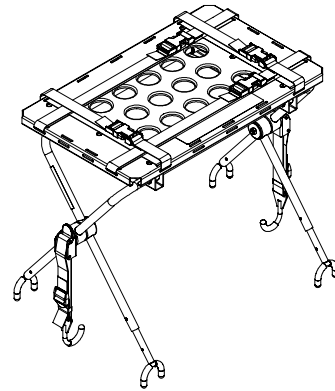

Figure 66b
2. Open and expand the defibrillator platform legs as shown in Figure 66b.